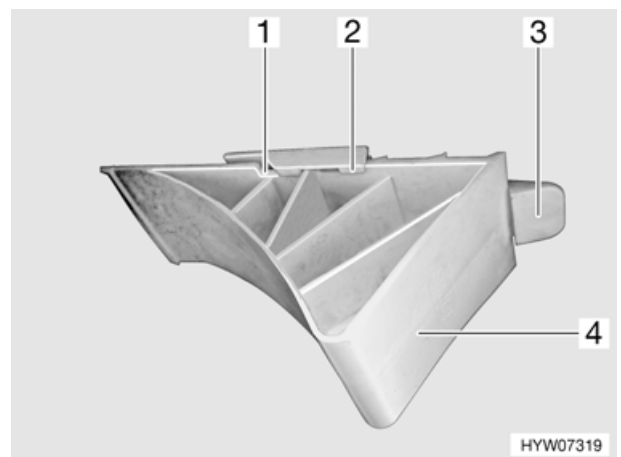

Fig. 8 Wheel chock
- Press the retaining clip (Fig. 8,3) upwards.
- Pull the wheel chock (Fig. 8,4) forwards until the recesses of the wheel chock (Fig. 8,1) are aligned with the hooks at the holder (Fig. 8,2).